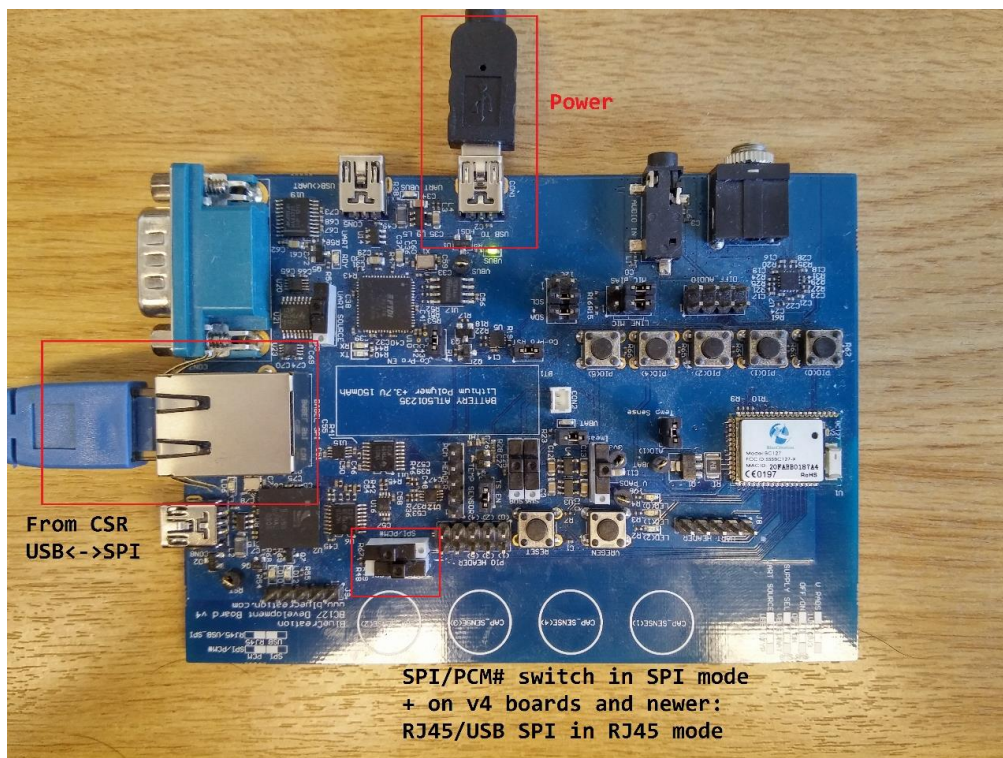

Figure 2: Connecting a BC127 Dev Board to a PC for programming
- 1.2.2.2. Plug in mini USB cable into power source wall charger or PC USB and connect it to one of the mini USB ports on your development board. If the USB cable is connected to a PC the development board will start enumerating. This is not important. (Figure 2)
- 1.2.2.3. Ensure SPI/PCM# switch is in SPI mode (Figure 2)
- 1.2.2.4. v4 and newer only: Ensure RJ45/USB SPI switch is in RJ45 mode (Figure 2)
- 1.2.2.5. Ensure SUPPLY SEL switch is in VBUS mode (Figure 2)
- 1.2.2.6. Plug in the RJ45 cable from the CSR USB<->SPI converter to your Dev Board's RJ45 connector (CON6/ BABEL SPI) (Figure 2)